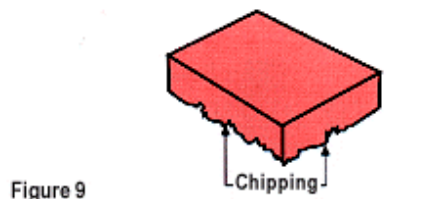

Figure 9
**Problem B:** Chipping at the bottom of the die when using ring type vacuum chuck (figure 9).